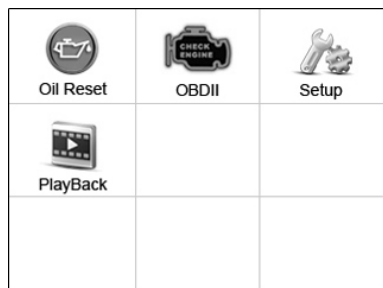

Figure 3.1
- 4) Power up the scan tool , and wait for the **Main Screen** to appear.(Figure 3.1)
- 1) Use the **UP/DOWN** scroll button and **LEFT/RIGHT** scroll button to select **Playback** from **Main Screen** (Figure 3.1), and press the **OK** button. Wait for the **Review data** screen to appear.
- 5) Turn on the scan tool. Select **OBDII** from the **Main Screen**. (Figure 3.1)